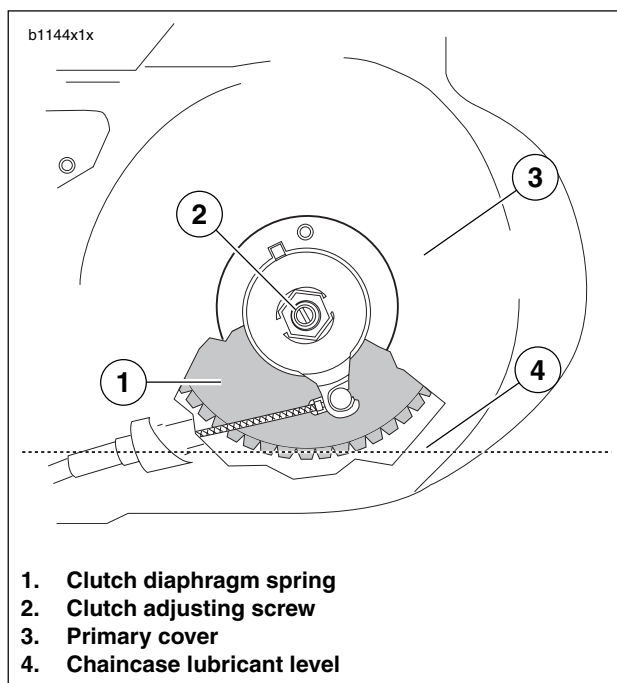

Figure 1-21. Fluid Level
5. See Figure 1-21. Add SPORT-TRANS FLUID (Part No. 98854-96 quart size; Part No. 98855-96 gallon size) as required until fluid level (3) is even with bottom of clutch diaphragm spring (2).